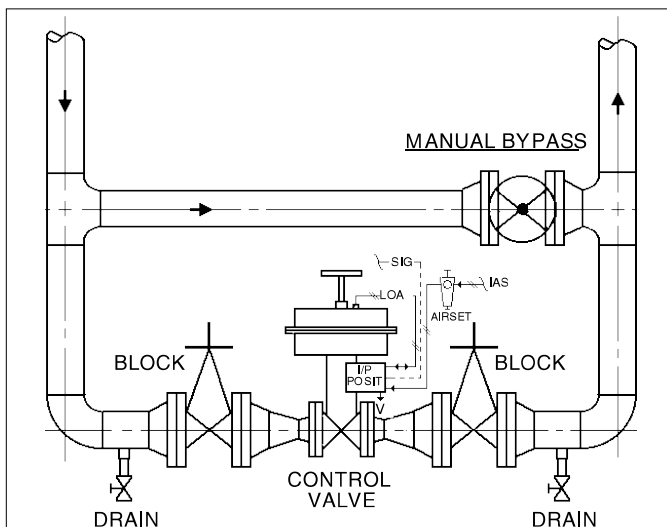

FIGURE 1: Typical Control Valve Station
1. It is recommended that the control valve unit be installed with a double-block and bypass as indicated in Figure 1. This arrangement is necessary when maintenance is to be done on the valve body. Valve must be removed from the pipeline to gain access to unit's internal trim parts.